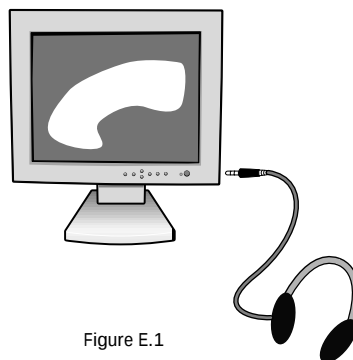

Figure E.1
2. Headphones may be connected to the "Headphones" output on the right side of the monitor (Figure E.1). Headphones can be purchased from your local electronics store.